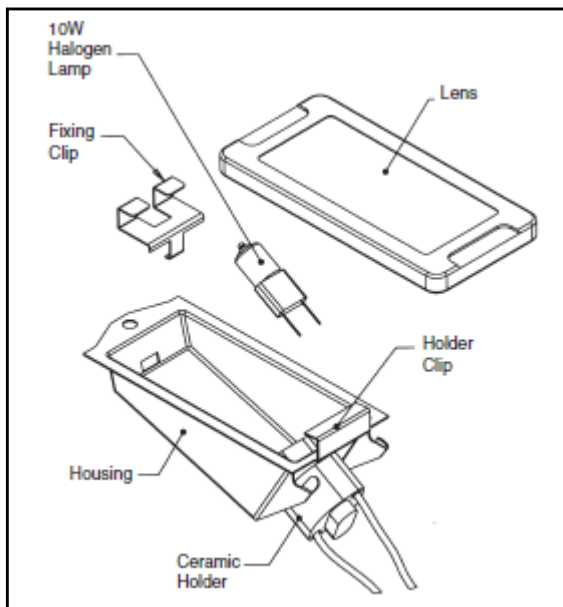

Figure 32: Oven Lamp Assembly
3. Slide the tip of a flat blade screw driver between the fixing clip and the lamp housing (Figure 32 and 33).